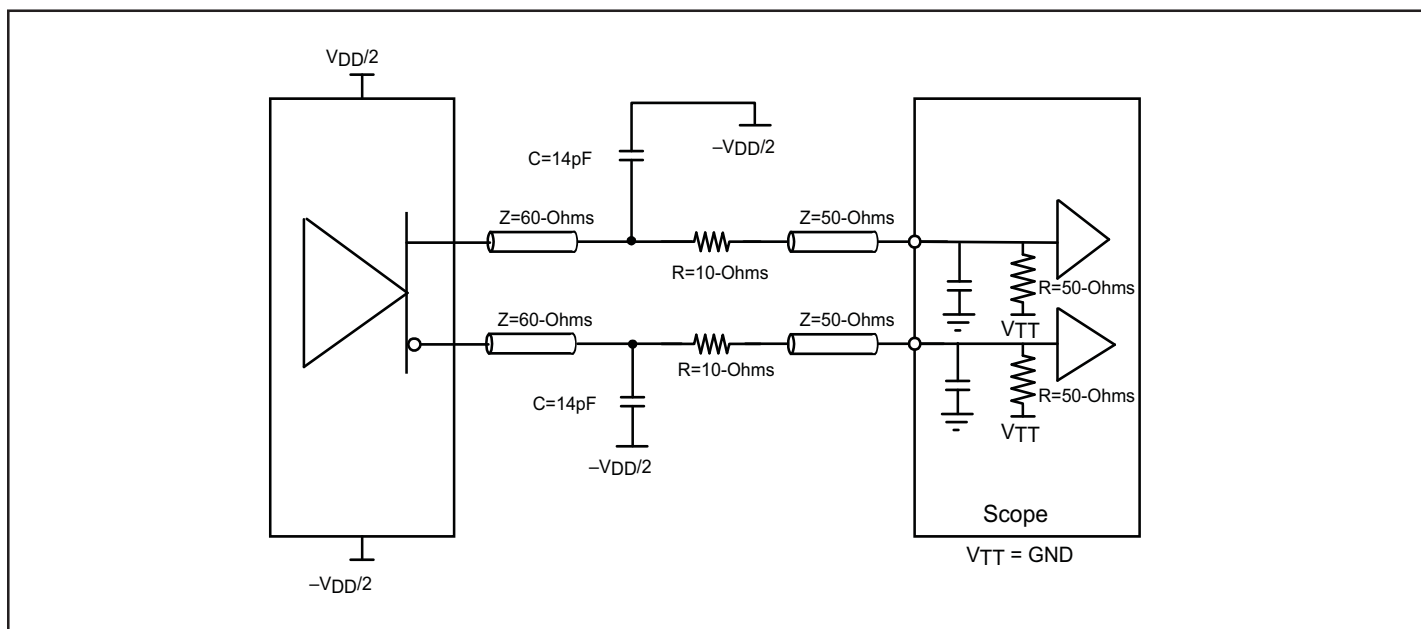

Figure 3. Output Load Test Circuit 2
2. The Output Skew Rate is calculated by using the load shown in Figure 3.